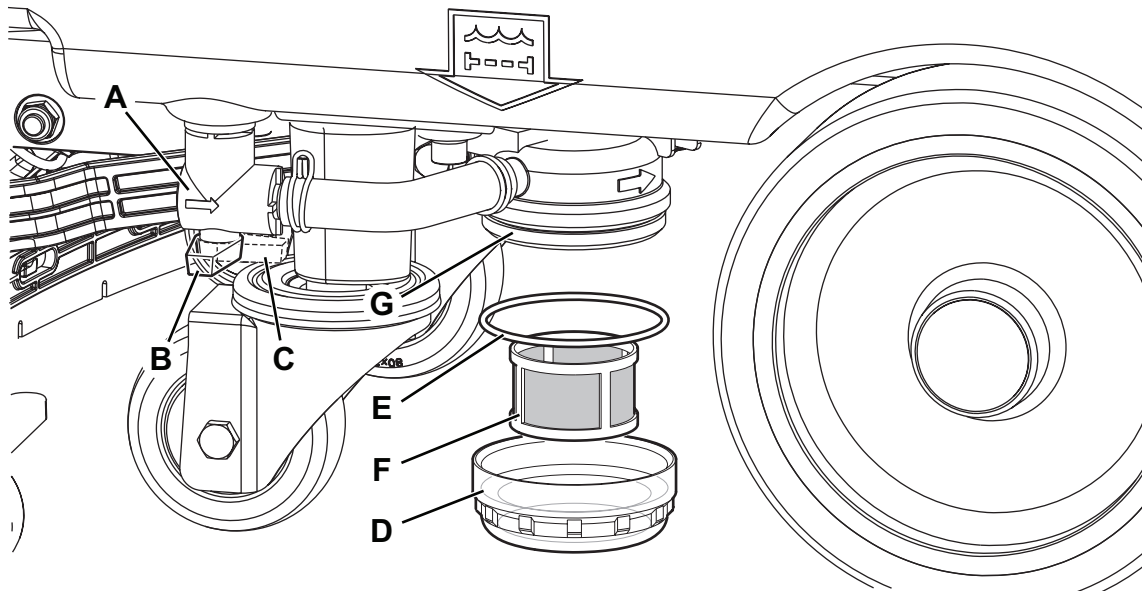

Figure 7
2. Ensure that the machine is turned off and the power supply cable plug (4) is disconnected from the electrical mains.
3. Close the detergent solution tank valve (A, Fig. 7). The valve is closed when it is in position (B) and it is open when it is in position (C).
4. Remove the transparent cover (D) and the gasket (E), then remove the filter strainer (F). Wash and rinse them, then refit them carefully onto the filter support (G).
5. Open the valve (A).